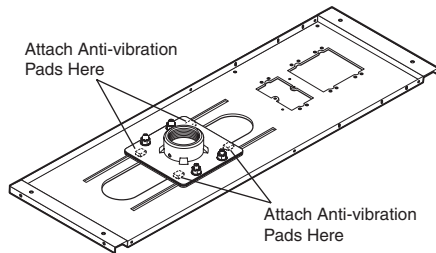

Figure 3 — Attach anti-vibration pads under adapter plate
- Peel and attach the pads to the **underside** of the adapter plate, one near each corner (see figure 3).